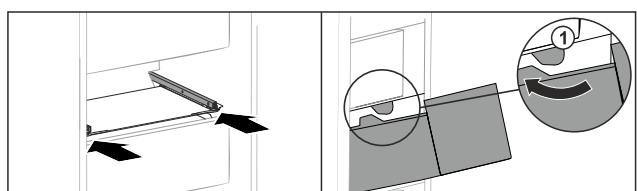

Fig. 161
- ▶ Guide drawer around the stoppers Fig. 161 (1).